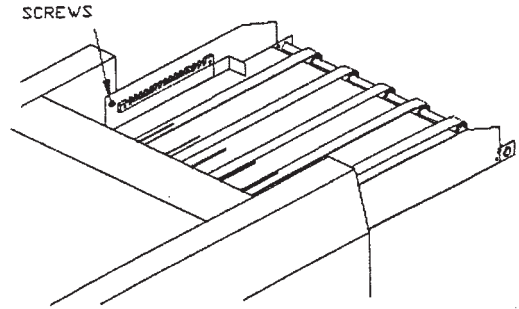

FIG 2
2. Butt the Stacker up against the Burster to mesh the drive gear. Align the holes in the Stacker Chassis with the threaded inserts in the Burster. (Fig. 2)
3. Insert all four screws (two (2) on underside of stacker tray) without tightening them. Once they are all in, tighten with a medium Phillips screwdriver. (Fig.2)